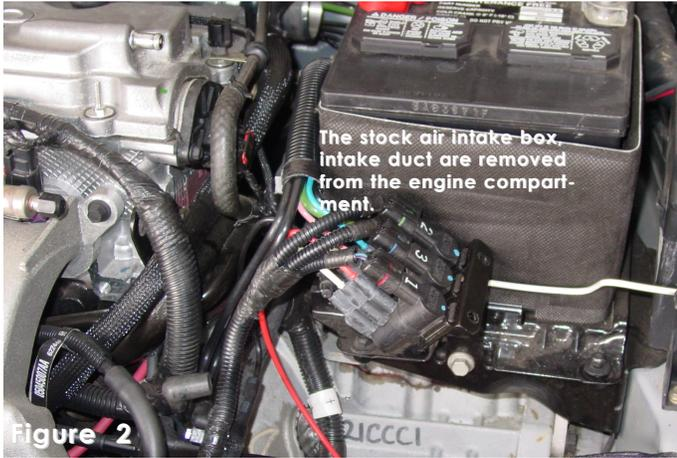

Figure 2
- 1- Remove the stock air intake box, air intake duct leading to the turbo inlet. Remove the vacuum lines and air temperature sensor from the air intake box. The boost solenoid valves will also be removed and relocated. (See fig. 2)